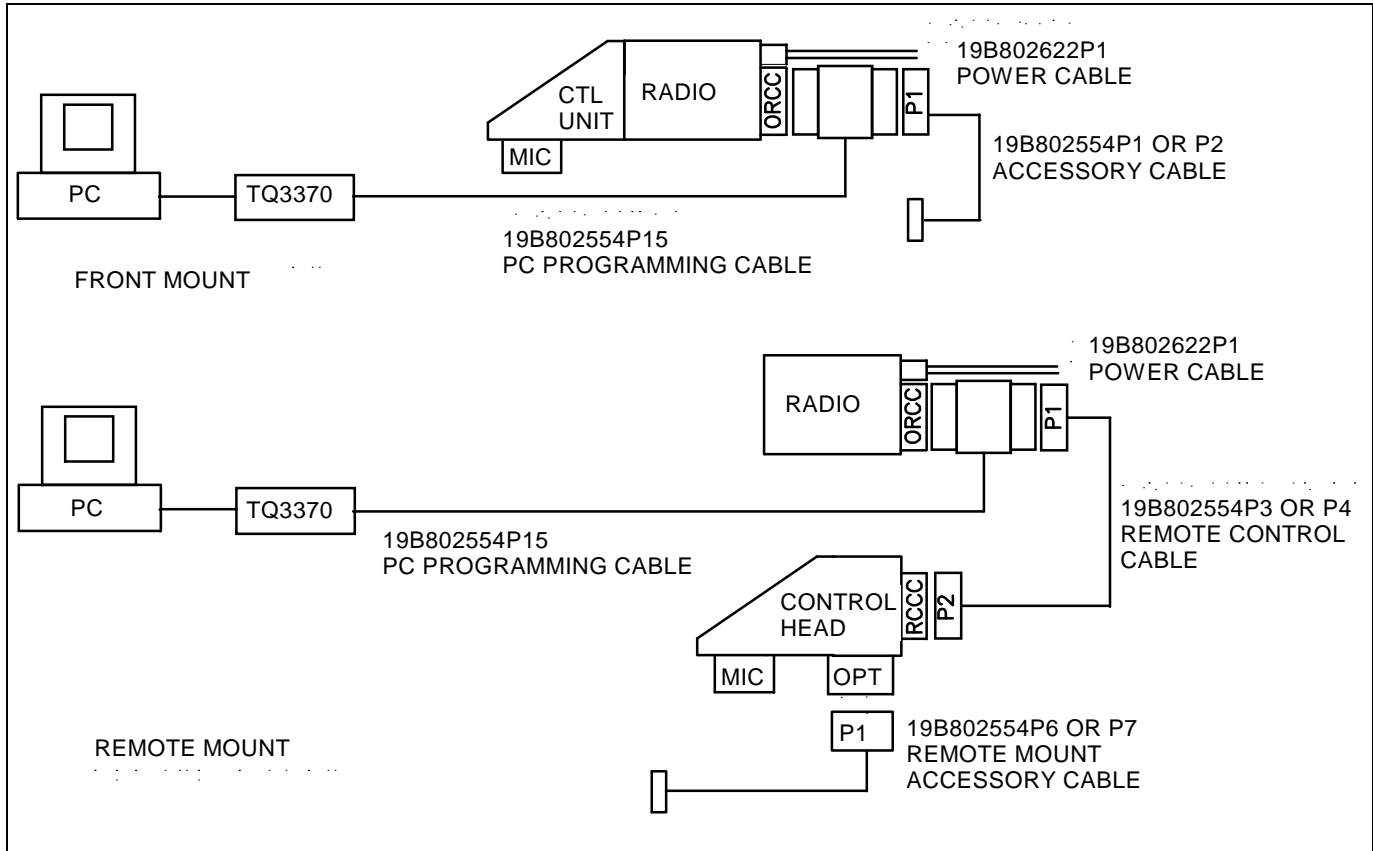

Figure 2 - ORION Programming Configurations (USA)
In order to program an **ORION** personality, the radio and control unit must first be connected to a personal computer through PC Programming Cable and Hardware Programming Interface TQ3370, in one of the configurations shown in Figure 2 or 3. Accessories may be connected to the appropriate accessory cable 19B802554P1-P4 as needed.
To reload Tracking Data, connect the radio in the appropriate configuration as shown in Figure 2 or 3, and perform the following steps:
3. If measurements are within limits, the job is complete. If not, reconnect in the programming configuration according to Figures 2 or 3 and execute the programming maintenance software "MRKMAINT". Display the Tracking Data screen. For those frequencies where measurements are not within limits, enter new Tracking Data, following instructions on the screen. Program into radiopersonality and exit.